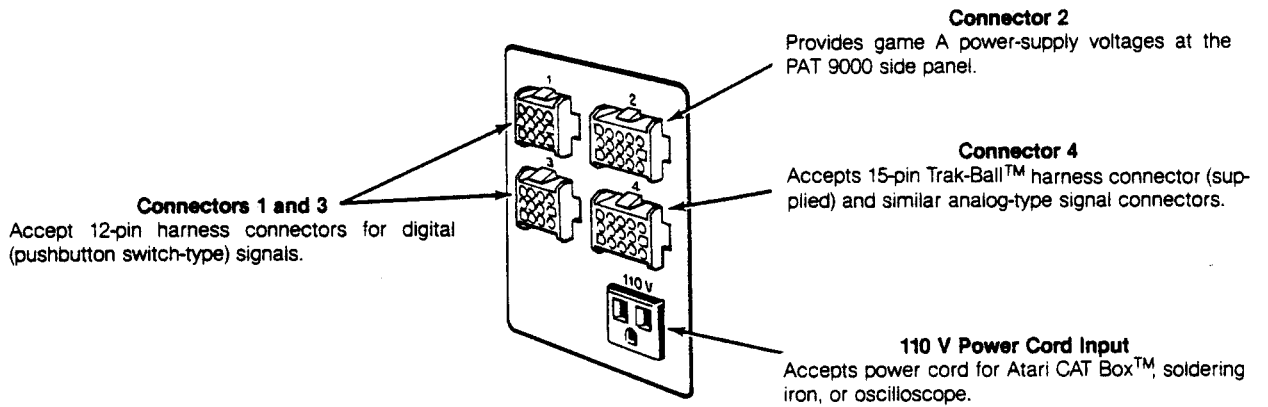
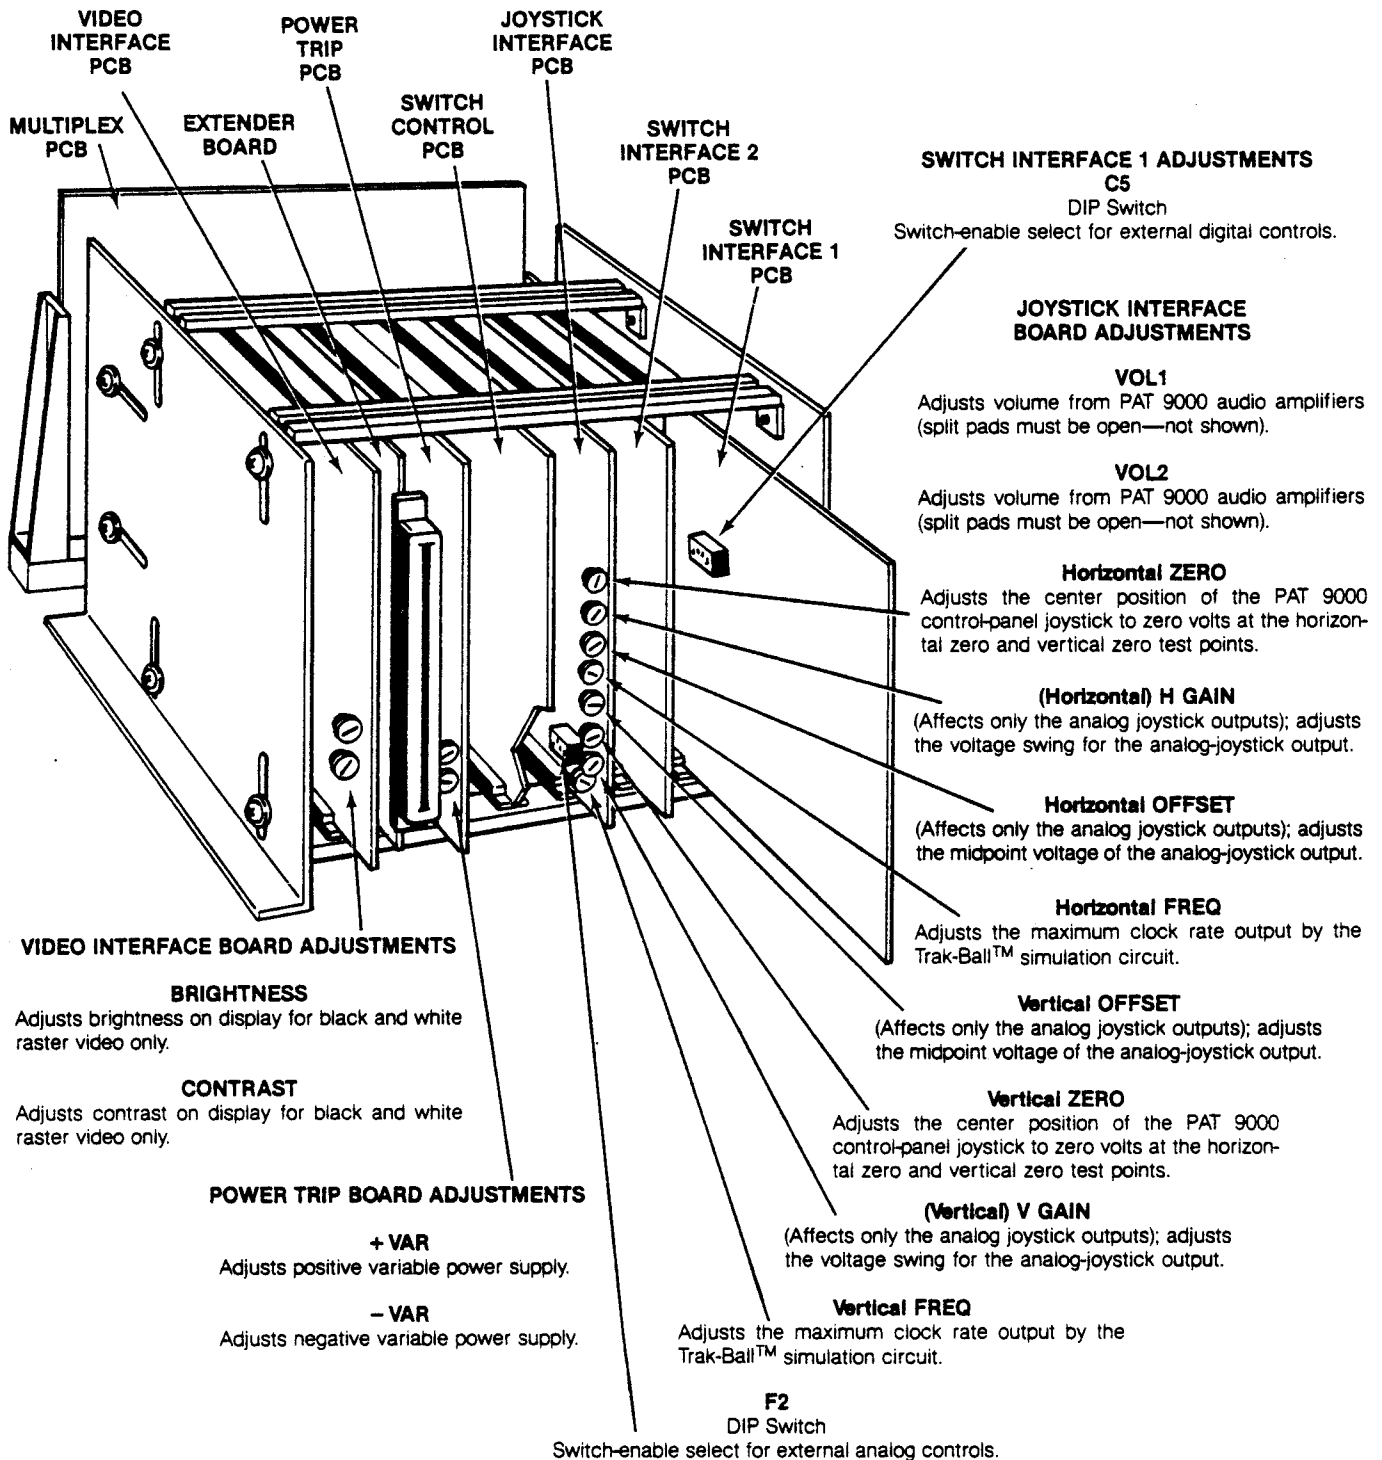

Figure 2-5 Left-, Right-Side Panel & Rear Panel Connectors
Figure 2-6 Interior Controls
Chapter 2 provides descriptions of controls, connectors, and indicators located on the PAT 9000 control panel (see Figures 2-1 through 2-4), left and right side panels (see Figure 2-5), rear panel (see Figure 2-5), and interior controls (see Figure 2-6).
In order that the joystick functions work properly, horizontal and vertical ZERO potentiometer adjustments must be correct. These adjustments will be needed any time the joystick lever or Joystick Interface PCB on the PAT 9000 is replaced or repaired. ZERO adjustments should be performed prior to any other joystick adjustments (see Figure 2-6).
2. Measure the voltage on the horizontal and vertical (as appropriate) test point on the Joystick Interface PCB in the PAT 9000 (see Figure 2-6).